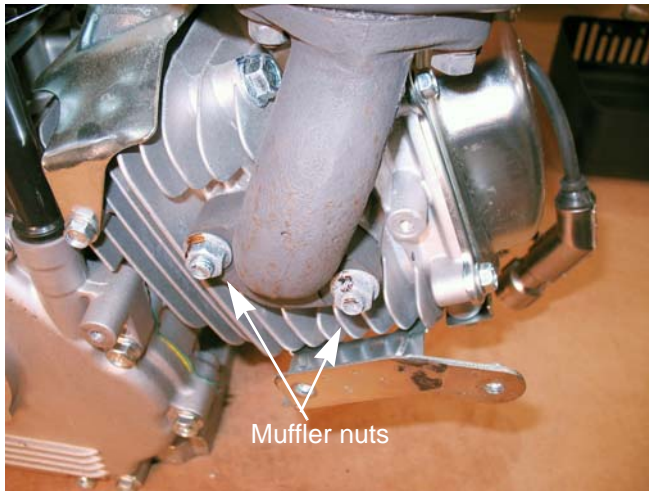

Figure 8.4
6. Remove the two muffler nuts using a 13mm wrench and lift the muffler off of the engine. See Figure 8.4.